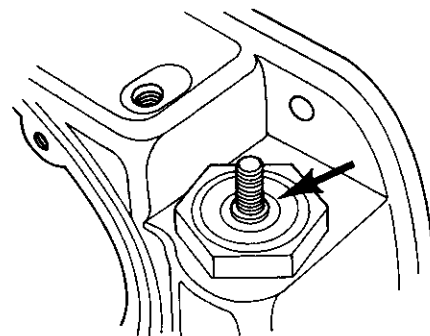

Figure 3.3.7A
4. Inspect the condenser P-lead stud for twisting or "pulled" condition. Either of these conditions is cause for component rejection. (See Figure 3.3.7A).